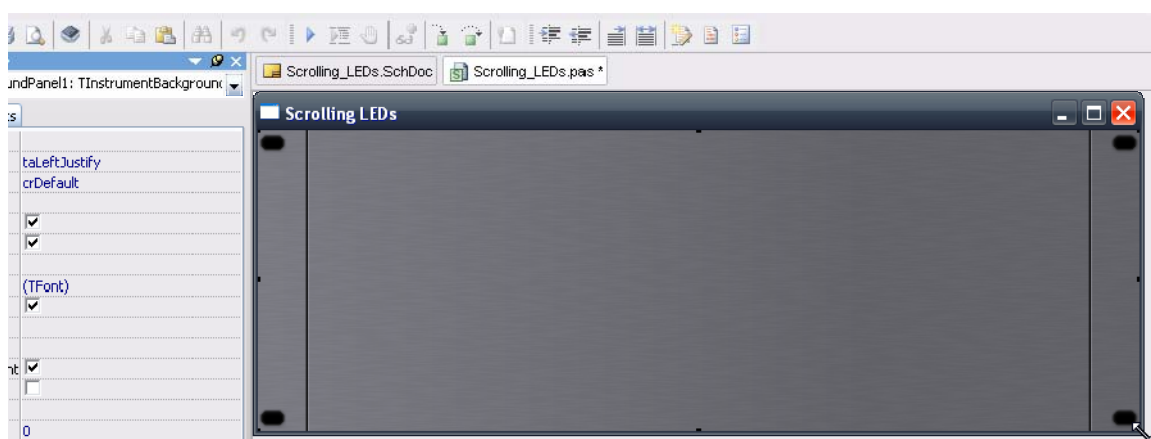

Figure 14. Resizing the form with the Instrument Panel applied
47. Position the cursor over the lower right corner of the form until the cursor changes to a double-headed diagonal arrow . Resize the form to be approximately the same size as it appears in Figure 14.